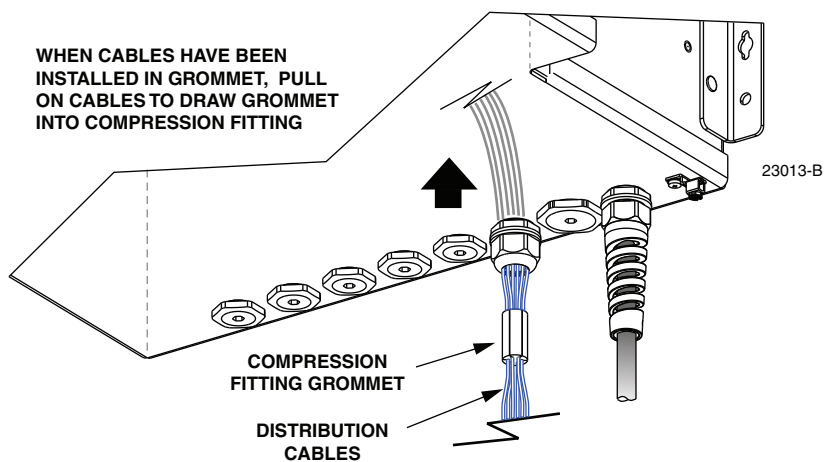

Figure 58. Install Distribution Cables in Grommet
9. Install each distribution cable into the compression fitting grommet as shown in Figure 58.